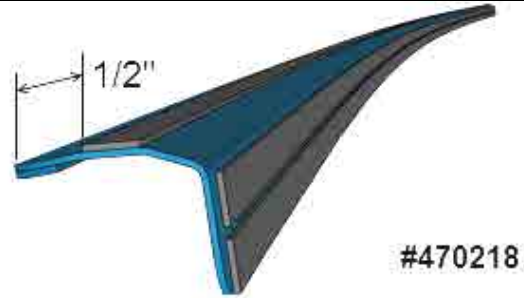

FIGURE 22
4. Apply three strips of double face self-adhesive tape along drip edge #470218 from one end up to the other end. The first strip should be placed about 1/2 inch from the edge as shown on FIGURE 22. The two other strips should be placed on each side of the drilled holes.